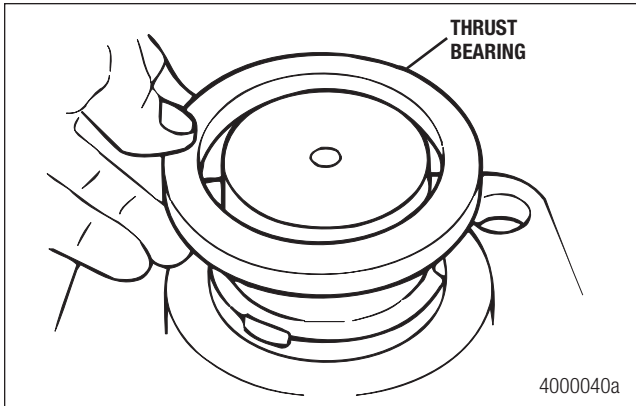

Figure 5.28
2. Remove the lower knuckle cap and inspect the thrust bearing for wear or damage. Replace a worn or damaged thrust bearing at reassembly. Figure 5.28.